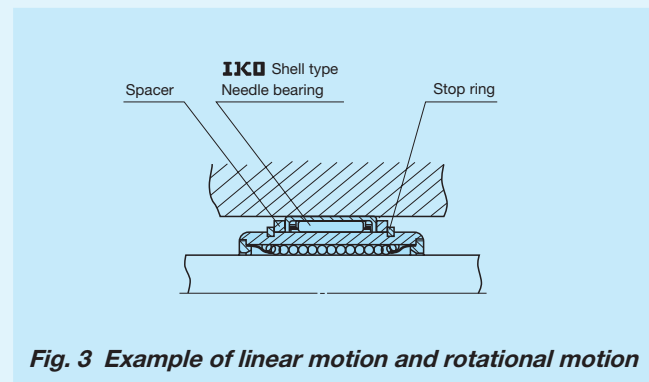

Fig. 3 Example of linear motion and rotational motion
Note (1) For hardness factor, refer to Fig. 3 in page III-5.
LM series units support only linear motion but do not support rotational motion. When performing rotational motion and linear motion of short stroke length, **IKO** stroke rotary bushing is recommended to be used. And, for the usage requiring rotational motion and linear motion of long stroke length, it is recommended to use in combination with **IKO** needle bearing as shown in Fig. 3.